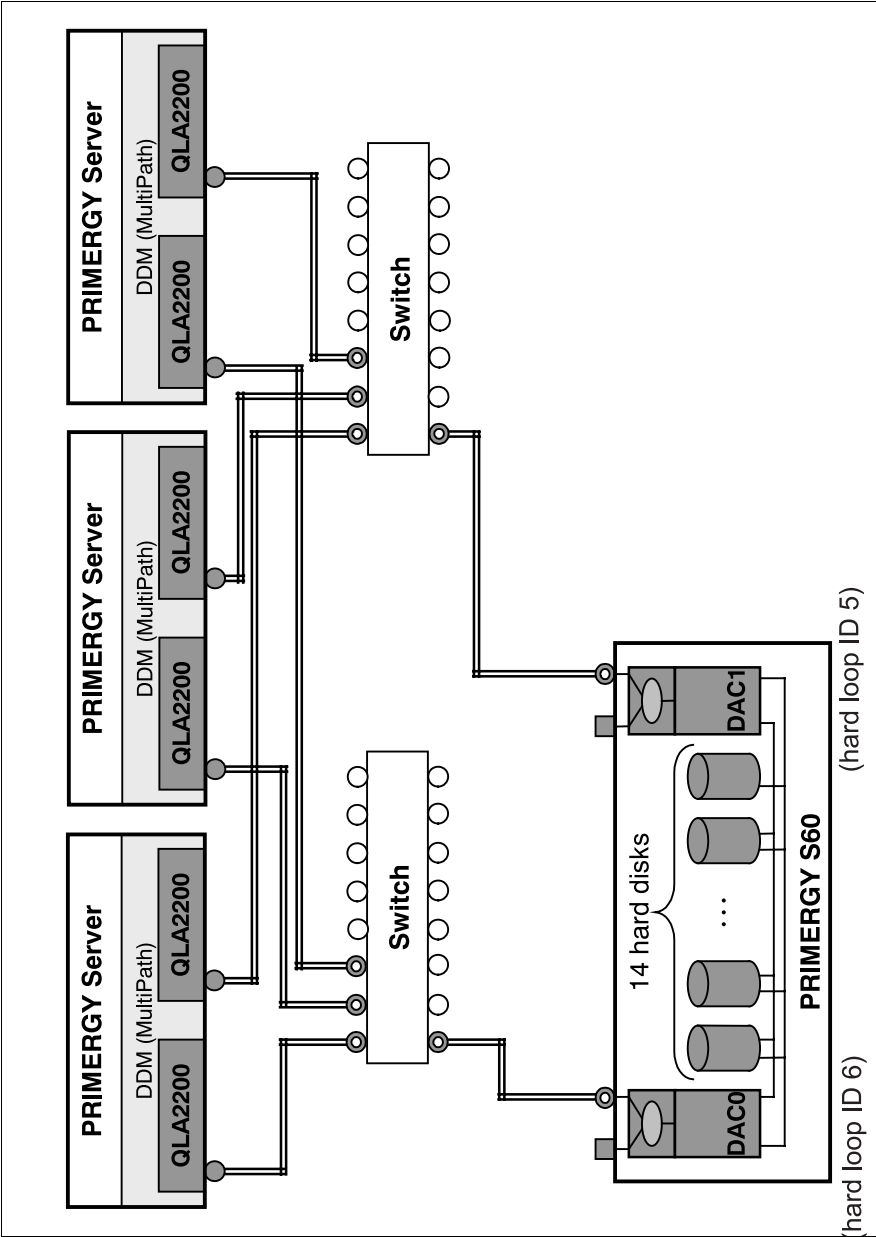

Figure 29: SAN Mapping with MultiPath in Switch Configuration
- Loop IDs (see figure 29 on page 44) for FFX, HBAs disabled